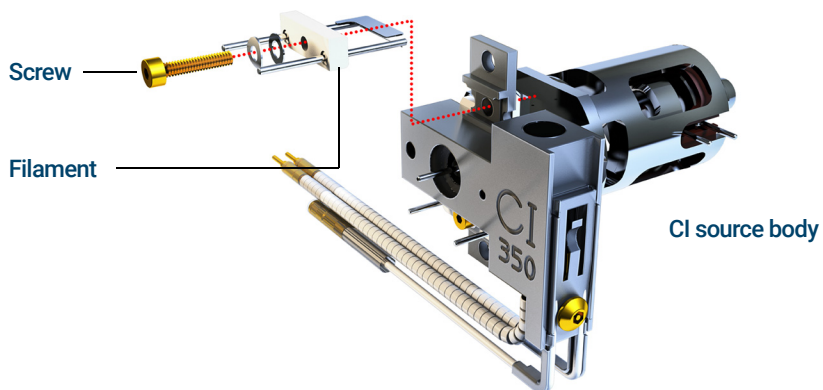

Figure 76. Changing the CI source filament
- 4 Remove the screw holding the filament to the CI source body. (See **Figure 76.**)
- 5 Slide the filament off the CI source assembly. (See **Figure 76.**)
- 2 Place the new filament into its position on the ion source body. (See **Figure 76** on page 230.)
- 3 Secure the filament to the ion source body with the screw. (See **Figure 76** on page 230.)